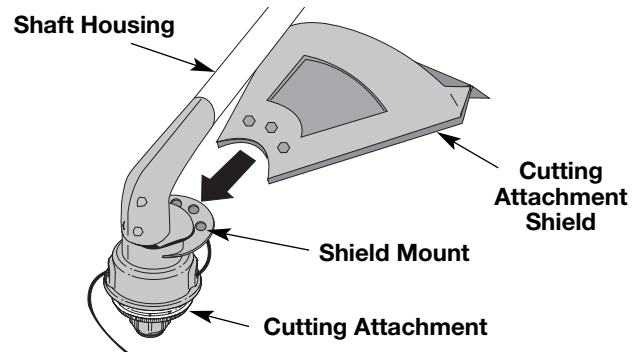

Fig. 2
1. Slide the cutting attachment shield into the shield mount on the cutting attachment. Align the screw holes in the shield with the holes in the cutting attachment (Fig. 2).